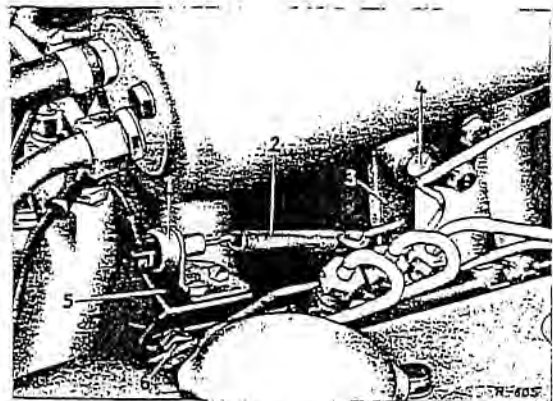

Fig. 25-10/35
7. If the clutch brake engages too early, move the bracket carrying the switch (1) forward in the direction of travel. If the clutch brake engages too late, move the switch bracket toward the rear (Fig. 25-10/35).